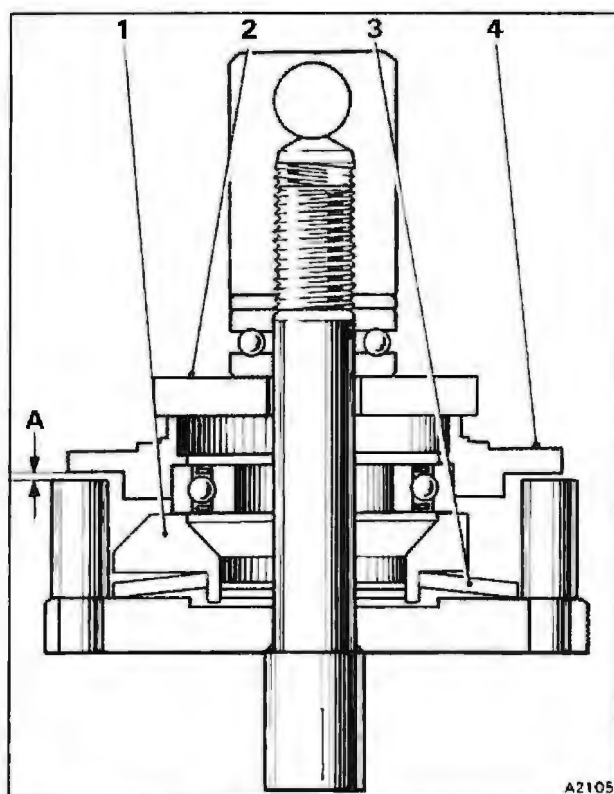

Fig. J2-10 Right-hand housing belleville washer setting
23. Place the right-hand housing, spacer, and belleville washer in the checking jig RH 9578 and tighten the jig until the belleville washer is flat (see fig. J2-10).